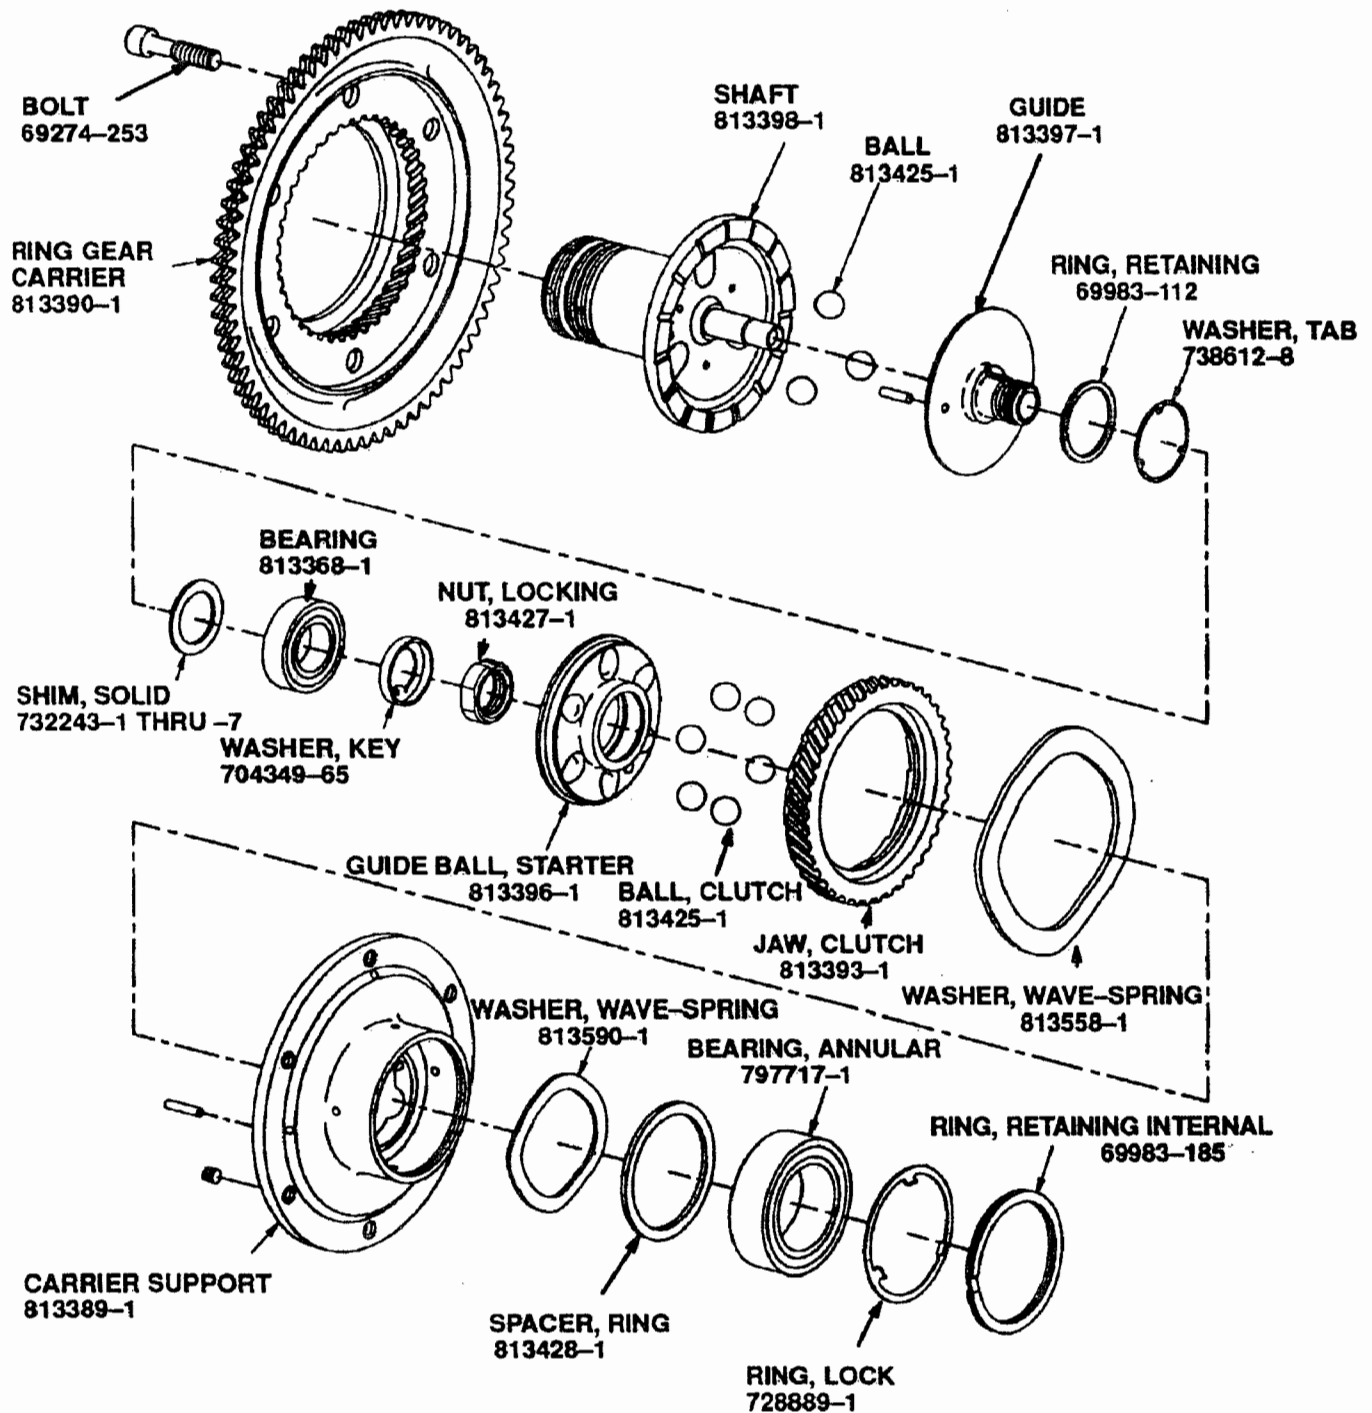

Figure 4. Synchronous Engagement Clutch
- (6) Install the turbine balance assembly and the cluster gears into the gear cage changed in step (4). Use the procedures in ASSEMBLY of the CMM to do this.
- (7) Install the bearing sleeve into the transmission housing, part number 738274-102. Use the procedures in ASSEMBLY of the CMM to do this.
- (8) The synchronous engagement clutch, part number 803188-1, can be assembled from spare parts or can be bought as a complete assembly. If spare parts are used, go to step (8)(a). If the clutch is assembled, go to step (8)(b).
- (a) To assemble the synchronous engagement clutch, part number 803188-1, do these steps (refer to Figure 3 and Figure 4):
- 9 Remove these parts from the carrier support (refer to Figure 3 and Figure 4):